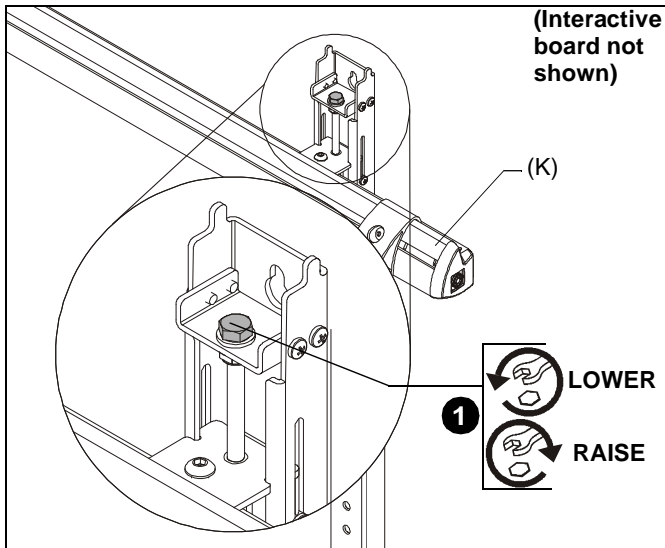

Figure 12
1. The wall assembly (K) can be adjusted or leveled by turning the hex head bolt in the brackets. (See Figure 12)